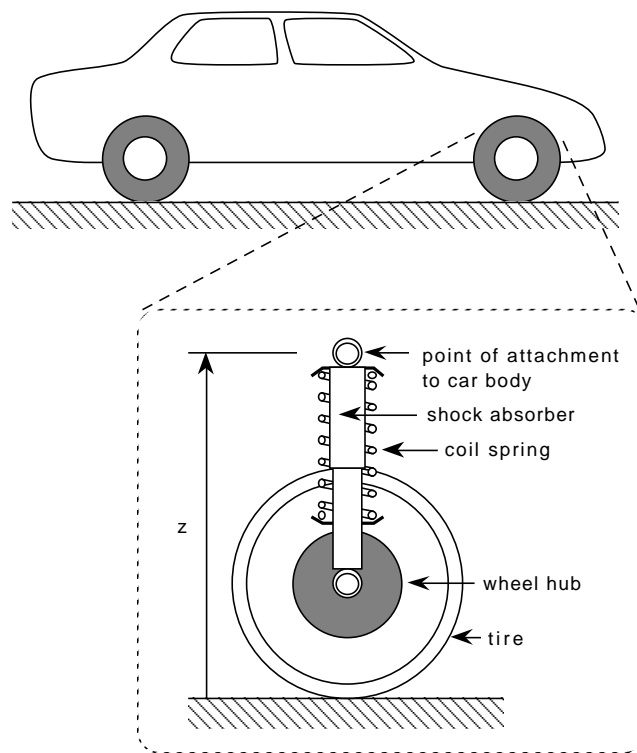

Figure 2: Automobile Suspension
2. Reconsider the problem of blocked springs in an automobile suspension which was discussed in Practice Session 3. Figure 2 depicts the main components of the suspension for one wheel of an automobile. To change the ride and handling qualities, automobile enthusiasts sometimes insert "blocks" between some of the coils of the spring to prevent that part of it from deflecting. Consider the case where "blocks" are added to immobilize exactly *half* of the coils of each spring. Assume that: